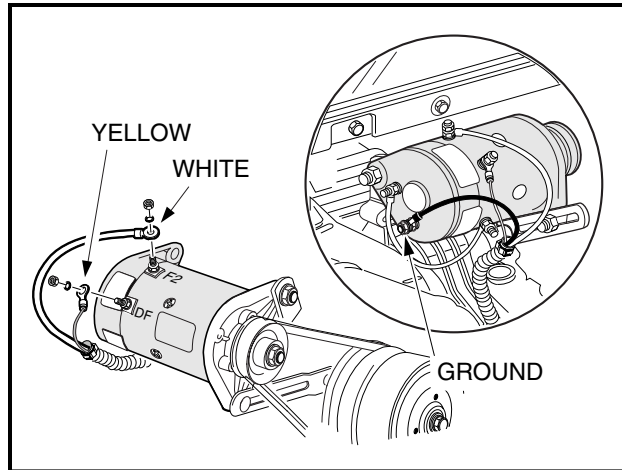

Figure 16-18 Generator Wires
- 5.13. Mark for reference then disconnect the 6-gauge white wire (F2 post), 6-gauge black ground wire (A2 post), and 16-gauge yellow wire (DF post) from starter/generator (**Figure 16-18, Page 16-10**).